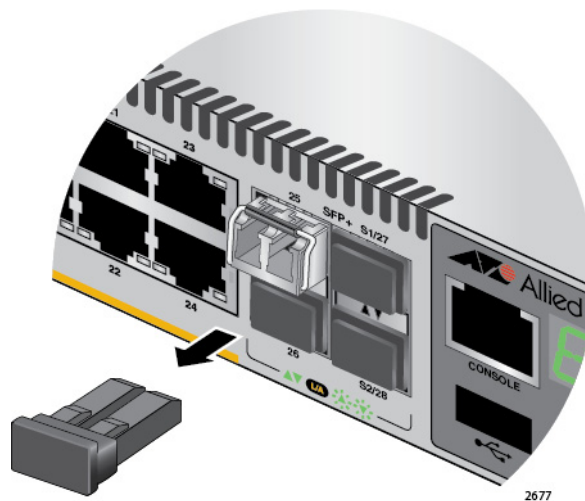

Figure 29. Removing the Dust Cover from an SFP or SFP+ Transceiver
5. Remove the dust cover from the transceiver, as shown in Figure 29.